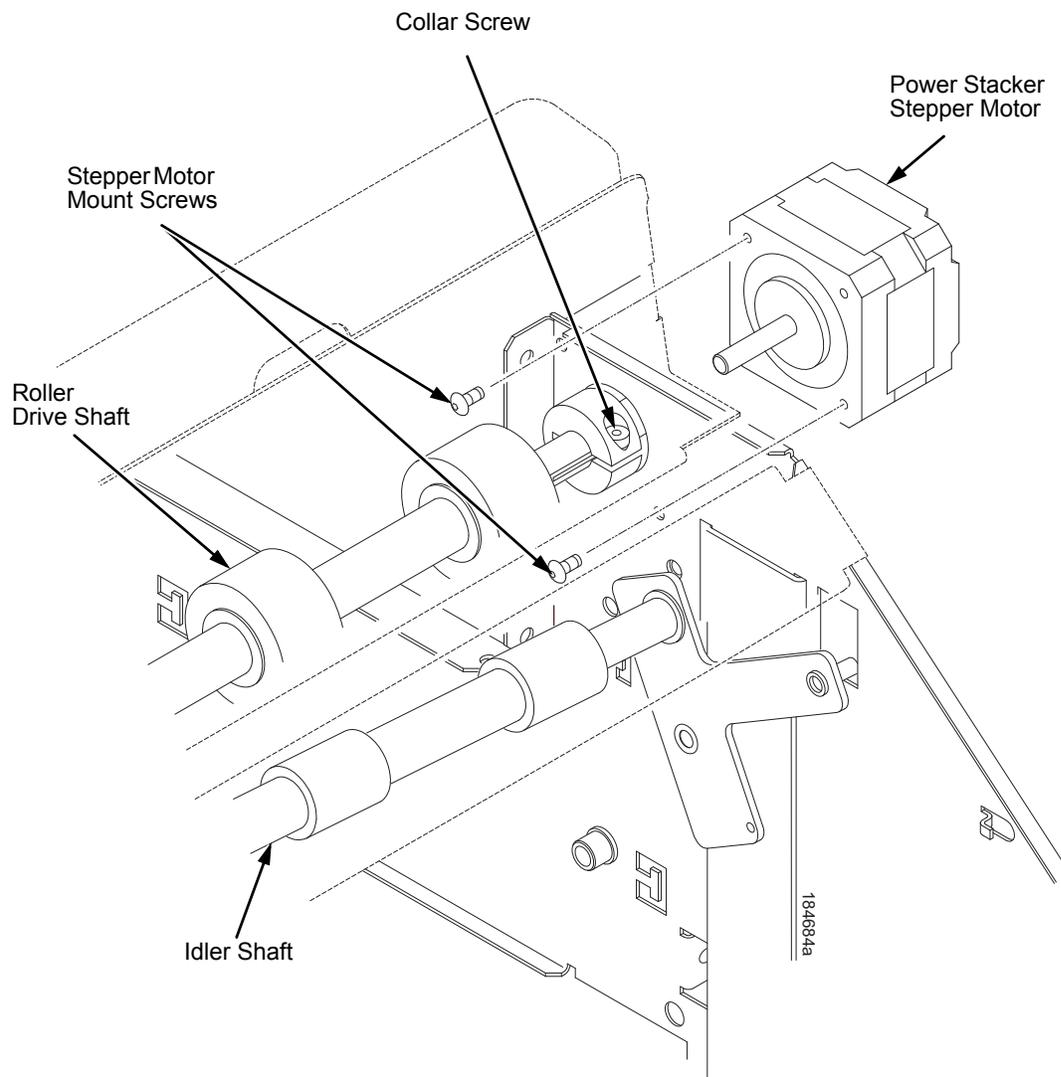

Figure 34. Power Stacker Stepper Motor
4. Move the idler shaft enough to expose the lower mount screw of the power stacker stepper motor. (Figure 34.)
6. Using an M-2 Allen wrench, remove the two screws securing the power stacker stepper motor to the elevator. (Figure 34.)
7. Using a 9/64 inch Allen wrench, loosen (do not remove) the collar screw securing the collar to the roller drive shaft. (Figure 34.)